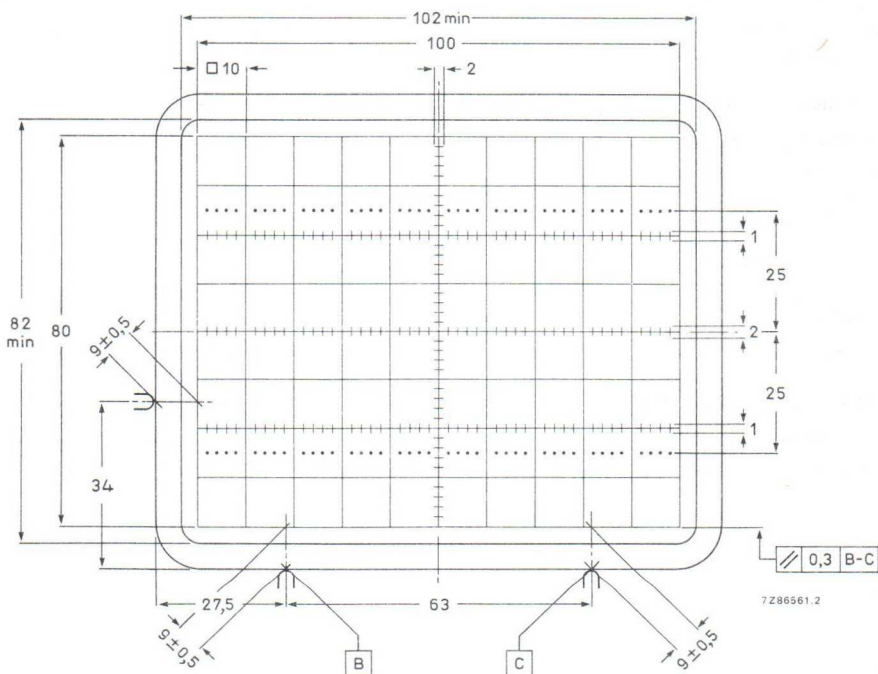

Fig. 4 Front view of tube with internal graticule, type 93.
- (1) Dimensions of faceplate only. The complete assembly of faceplate and cone (frit seal included) will pass through an opening of 122 mm x 102 mm (diagonal 153 mm).
- (2) The coil is fixed to the envelope with resin and adhesive tape.
- (3) The length of the connecting leads of the rotation coil is min. 350 mm.
- (4) Reference points on faceplate for graticule alignment (see Fig. 4).
The internal graticule is aligned with the faceplate by using the faceplate reference points, see Fig. 4. See also note 1.
1. As the frit seal is visible through the faceplate, and not necessarily aligned with the internal graticule, application of an external passe-partout with open area of max. 102 mm x 82 mm is recommended. The internal graticule is aligned with the faceplate by using the faceplate reference points (see Fig. 4).